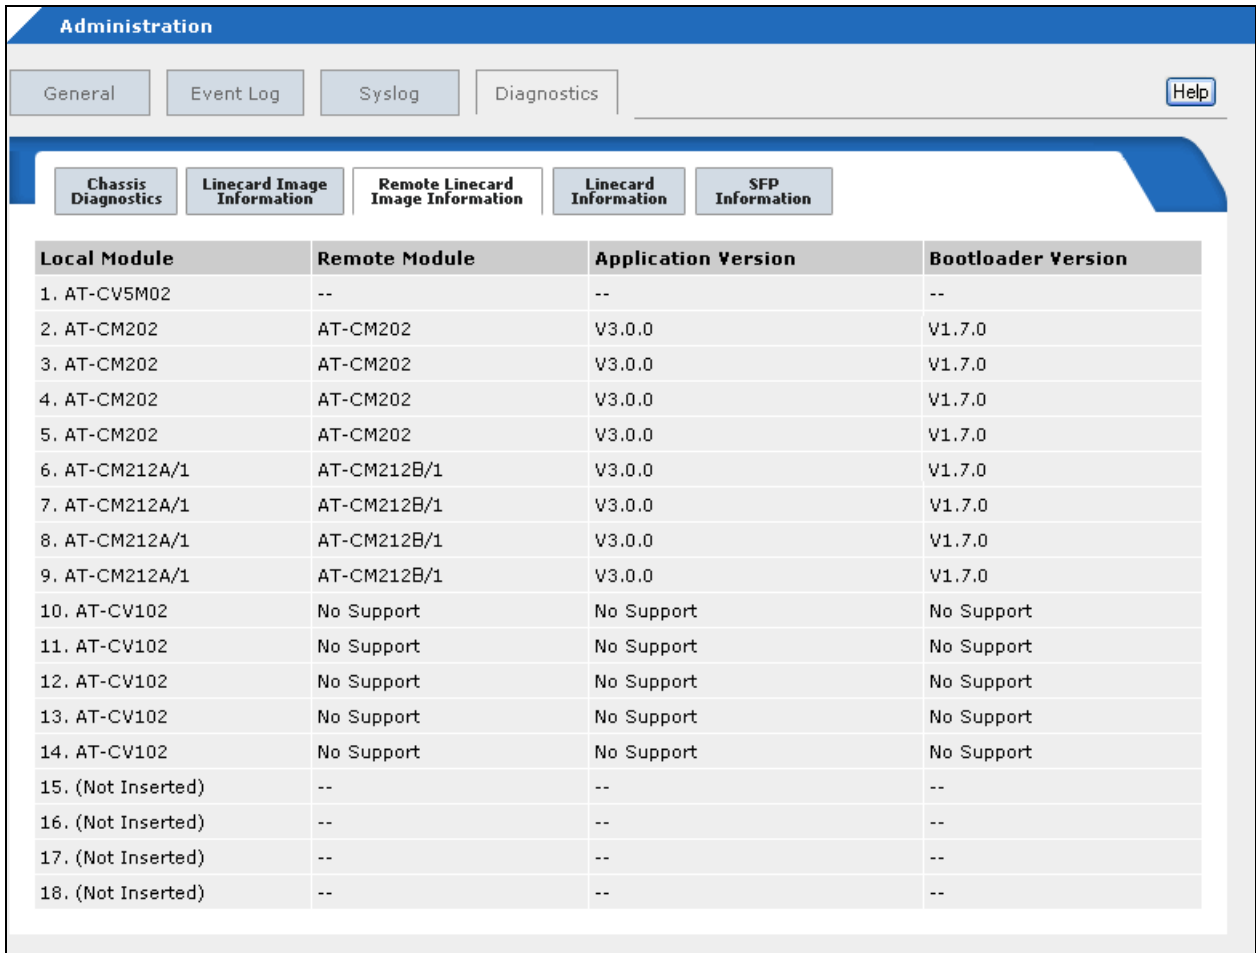

Figure 81. Remote Linecard Image Information Tab
3. Select the **Remote Linecard Image Information** tab, shown in Figure 81 on page 189.